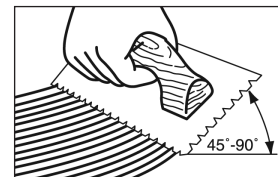

Figure 11
- Hold trowel at a 45° angle (Figure 11) firmly against the subfloor to obtain a 50-60 ft.² (4-5.5 m²) per gallon spread rate (30-35 ft.² per gallon for Summit spread with the included Summit All-In-One trowel) or other adhesive manufacturer's trowel. The trowel will leave ridges of adhesive and very little adhesive between the ridges. This method will allow you to still see the chalk lines between the ridges and provide the recommended spread rate. For additional application instructions, follow the recommendations on the adhesive container.